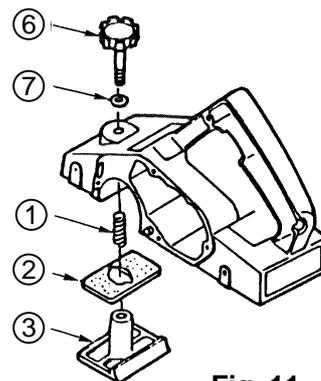

Fig. 11
(6) Removal of the Front Base and Related Parts: (Fig. 11)
- Loosen the Knob ⑥ by turning it counter-clockwise. The Front Base ③, Rubber packing ②, Adjusting spring ①, Knob ⑥ and Bolt Washer ⑦ can then be removed.